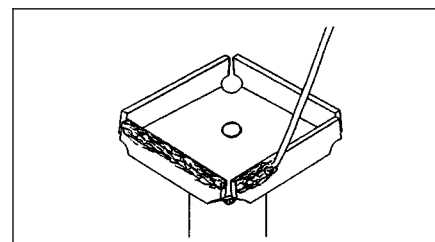

Figure 2 Tin Tips
8. Tin the outside and bottom edges of tip with solder. (See Figure 2.)